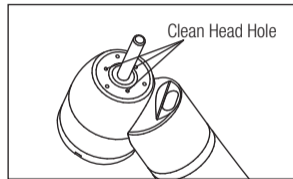

Fig. 5
- 1) Remove any debris from the Clean Head Holes with the provided cleaning wire and brush. (Fig. 5)